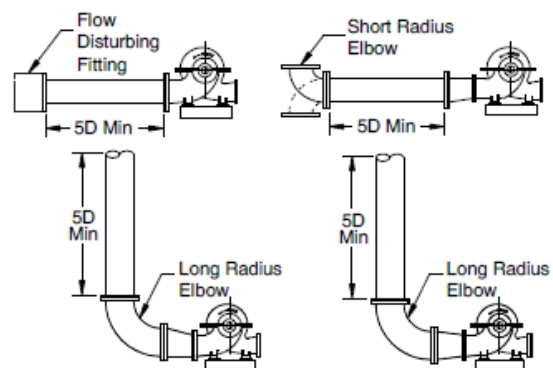

Figure 9 Recommended suction piping near pump
- There shall be no flow disturbing fittings such as partially opened valves tees or short radius elbows closer than five Suction pipe diameters from the pump. See fig.9